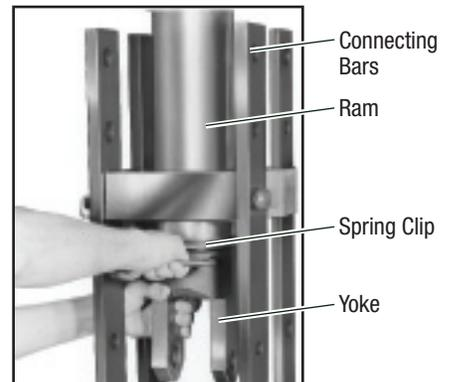

Figure 4
4. Assemble the yoke, spring clip, ram positioner, and pins. Position this assembly as close as possible to the connecting bar pivot point. Pivot the connecting bars with ram into the vertical position and lock in place (Fig. 4).